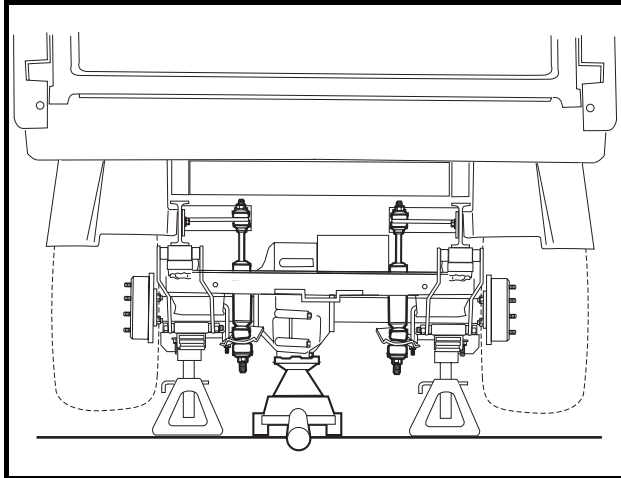
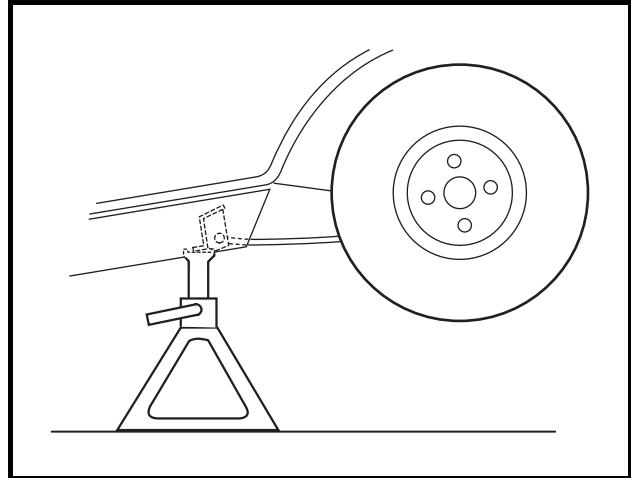

Figure 27-1 Lift Vehicle with Floor Jack
Figure 27-2 Vehicle Supported on Jack Stands
4. Place floor jack under transaxle and raise rear of vehicle (**Figure 27-1, Page 27-3**) then place jack stands under frame crossmember between the spring mount and the side stringer, just forward of each rear wheel. Lower the vehicle to let the jack stands support the vehicle (**Figure 27-2, Page 27-3**). See following **WARNING**.